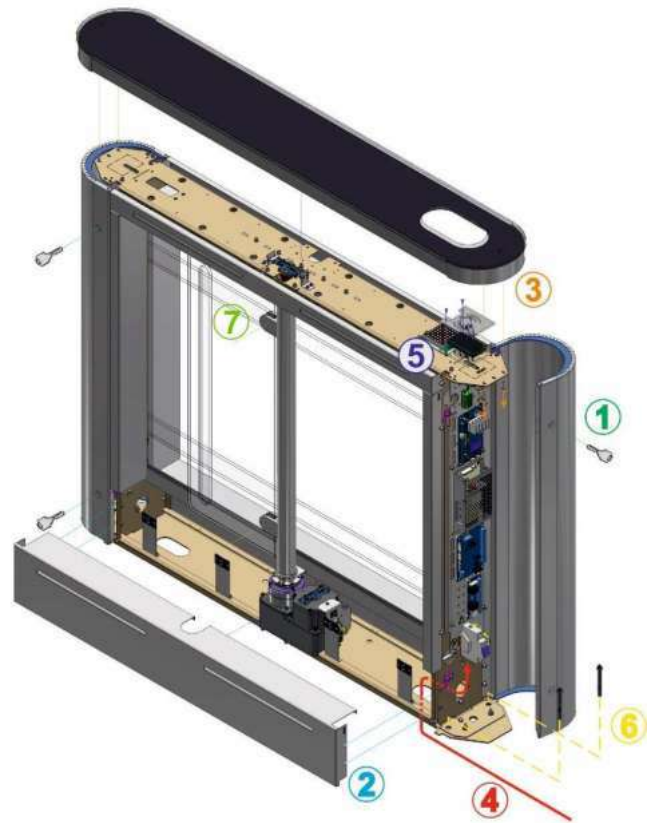

Fig. 20 - General view of the "Sweeper-BM-1" turnstile cabinet installation
1. - Locks to be unlocked by key and door to be turned (See Fig. 20);